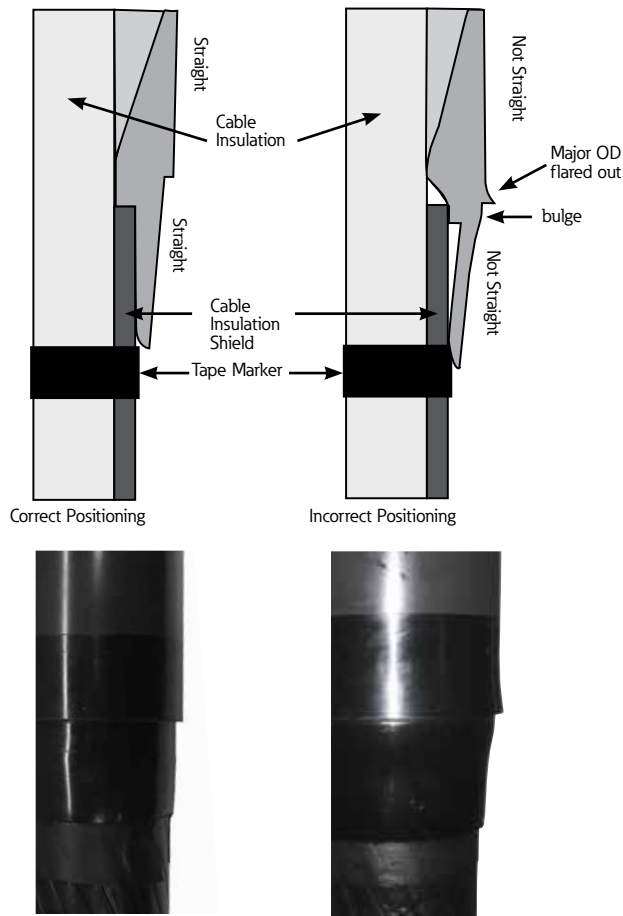

Figure 21. Cross sectional view of cable adapter positioning.
- After sliding the cable adapter into position make sure that no bulge is present. Refer to Figure 21.
Note: The end of the cable adapter must line up with the top edge of the tape marker after T-body assembly. Refer to Figure 21.